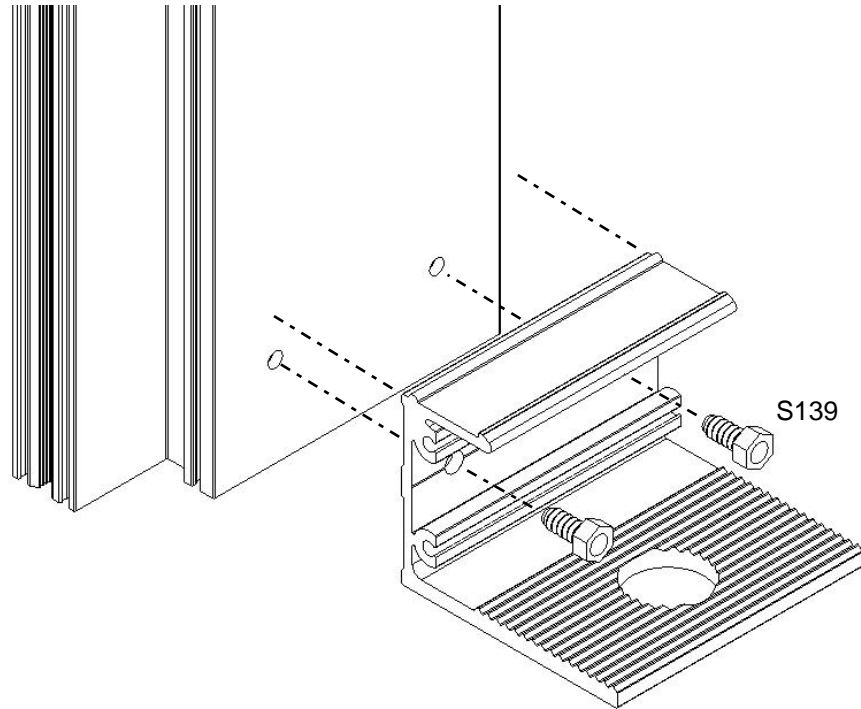

Figure 11: Fasten the sill anchor to the vertical back member.
- Fasten the sill anchor to the vertical using #14 x 1/2" self-tapping hex head screws (S139) and the previously drilled holes as shown in Figure 11.